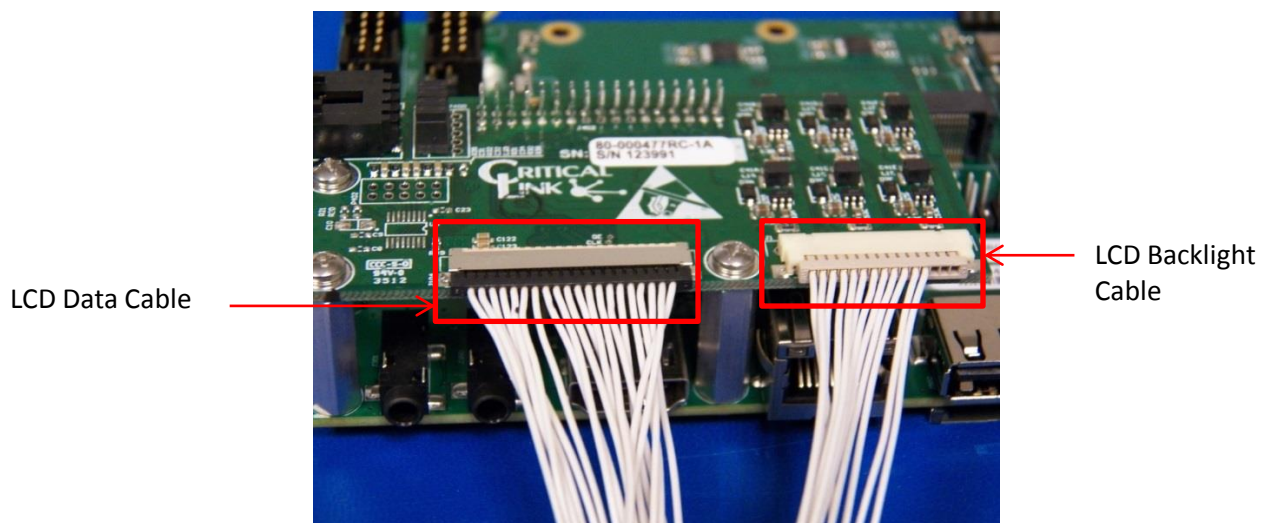

Figure 4: Connecting the two Cables to the Video Adapter PCA
6. Connect the LCD Backlight Cable and the LCD Data Cable to the pins of the Video Adapter PCA as shown in Figure 4.